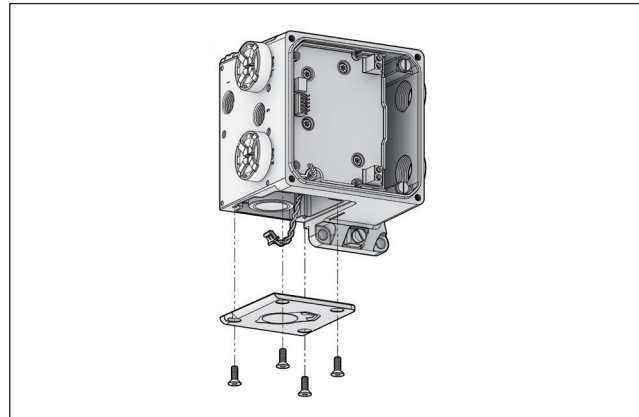

Fig. 101. NDX\_510\_
- Loosen the prestage cover screws and remove the prestage cover (Fig 101, applies to NDX1510\_ only)